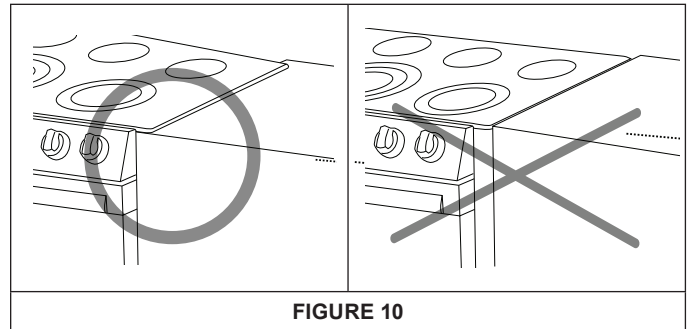

FIGURE 10
- The metal flange under each side of the cooktop **MUST** be placed over the cabinet countertop for proper unit support. The cooktop should **NOT** rest directly on the countertop or else it could cause damage to the cooktop voiding the warranty. See Figure 10.